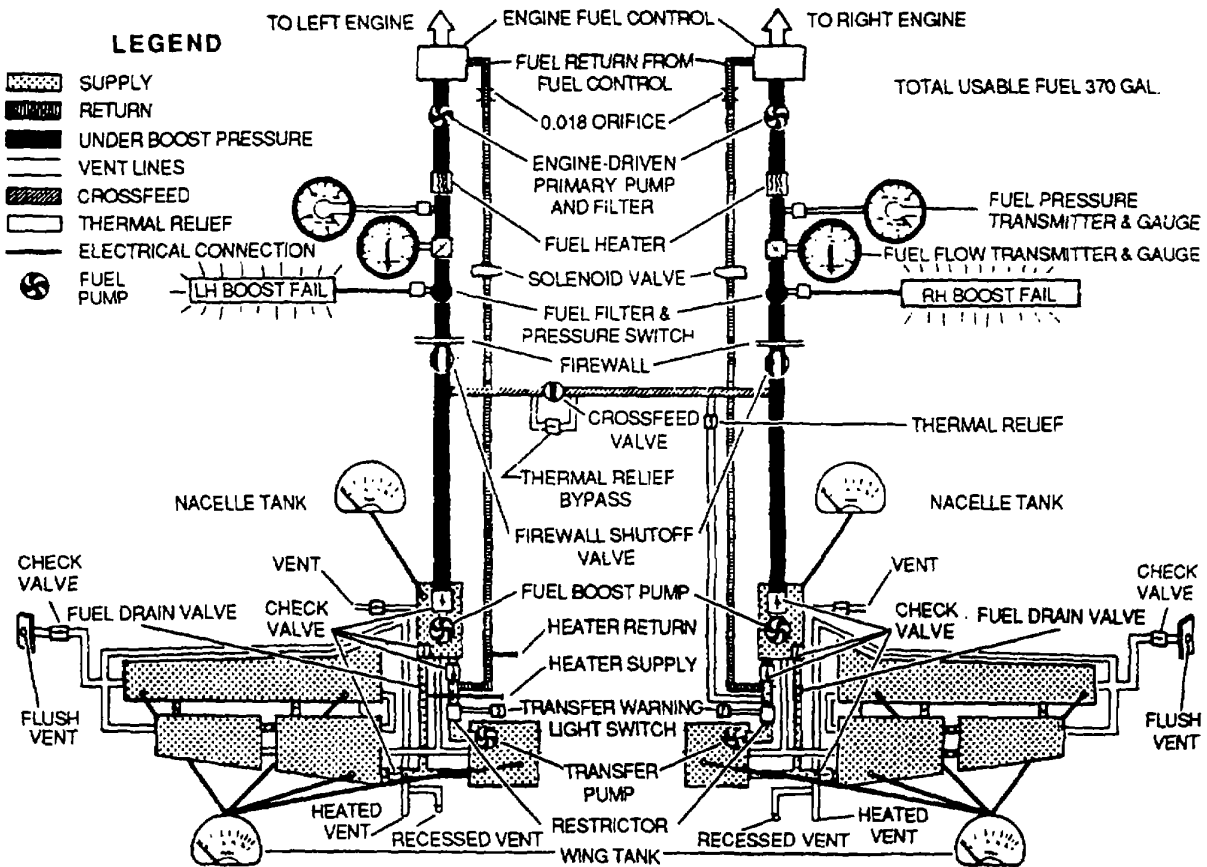

Figure 2-21. Typical Fuel System Schematic
*j. Fuel System Troubleshooting.* Troubleshooting should be accomplished in accordance with applicable aircraft maintenance manuals. A typical troubleshooting chart and a schematic are shown in table 2-9 and figure 2-21.